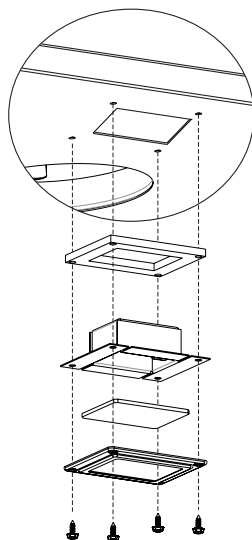

Figure 16
5. Secure the bezel, glass, gasket and light assembly to the firebox with four screws. Note: The painted side of the glass faces up. **See Figure 16.**